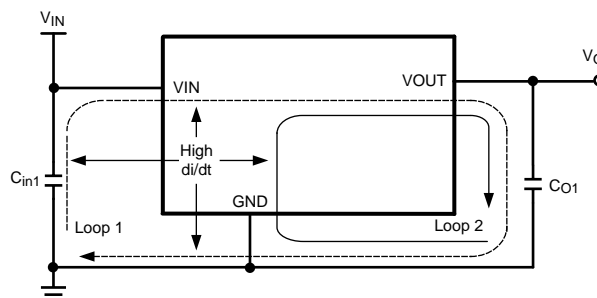

Figure 48.
From an EMI reduction standpoint, it is imperative to minimize the high di/dt paths during PC board layout as shown in Figure 48 above. The high current loops that do not overlap have high di/dt content that will cause observable high frequency noise on the output pin if the input capacitor ( $C_{IN1}$ ) is placed at a distance away from the LMZ22005. Therefore place  $C_{IN1}$  as close as possible to the LMZ22005 VIN and PGND exposed pad. This will minimize the high di/dt area and reduce radiated EMI. Additionally, grounding for both the input and output capacitor should consist of a localized top side plane that connects to the PGND exposed pad (EP).